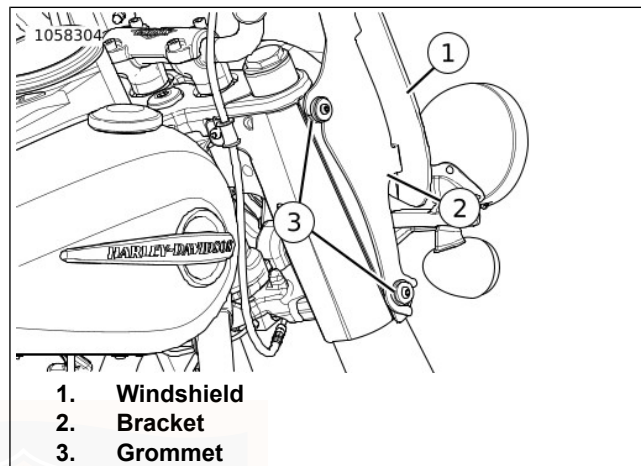

Figure 43. Windshield Assembly
1. See Figure 43. Move the TOP of the windshield assembly (1) forward, until the TOP bracket (2) notches slide away from the grommets (3).
1. See Figure 43. Verify grommets (3) and brackets (2) are in place and in good condition.